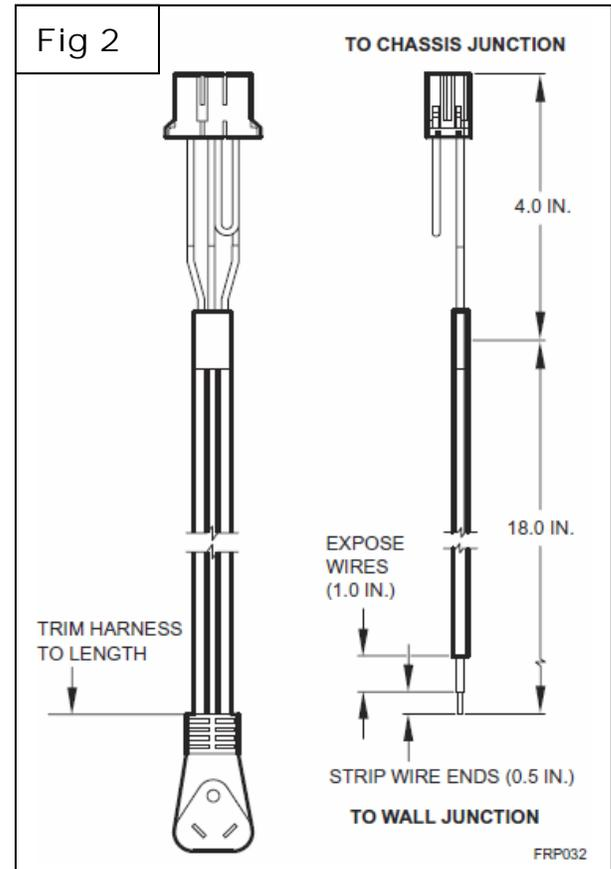

Fig 3
3. Route the cut end of power cord through the locknut, spacers, conduit connector, bushing, and flex conduit sleeve on the chassis's junction box (refer to Fig 3).
9. Clamp the power cord harness and conduit connector assembly with chassis's junction box cutout slot as shown in Fig 3. The clamping device is applied by screwing down the locknut and spacers.